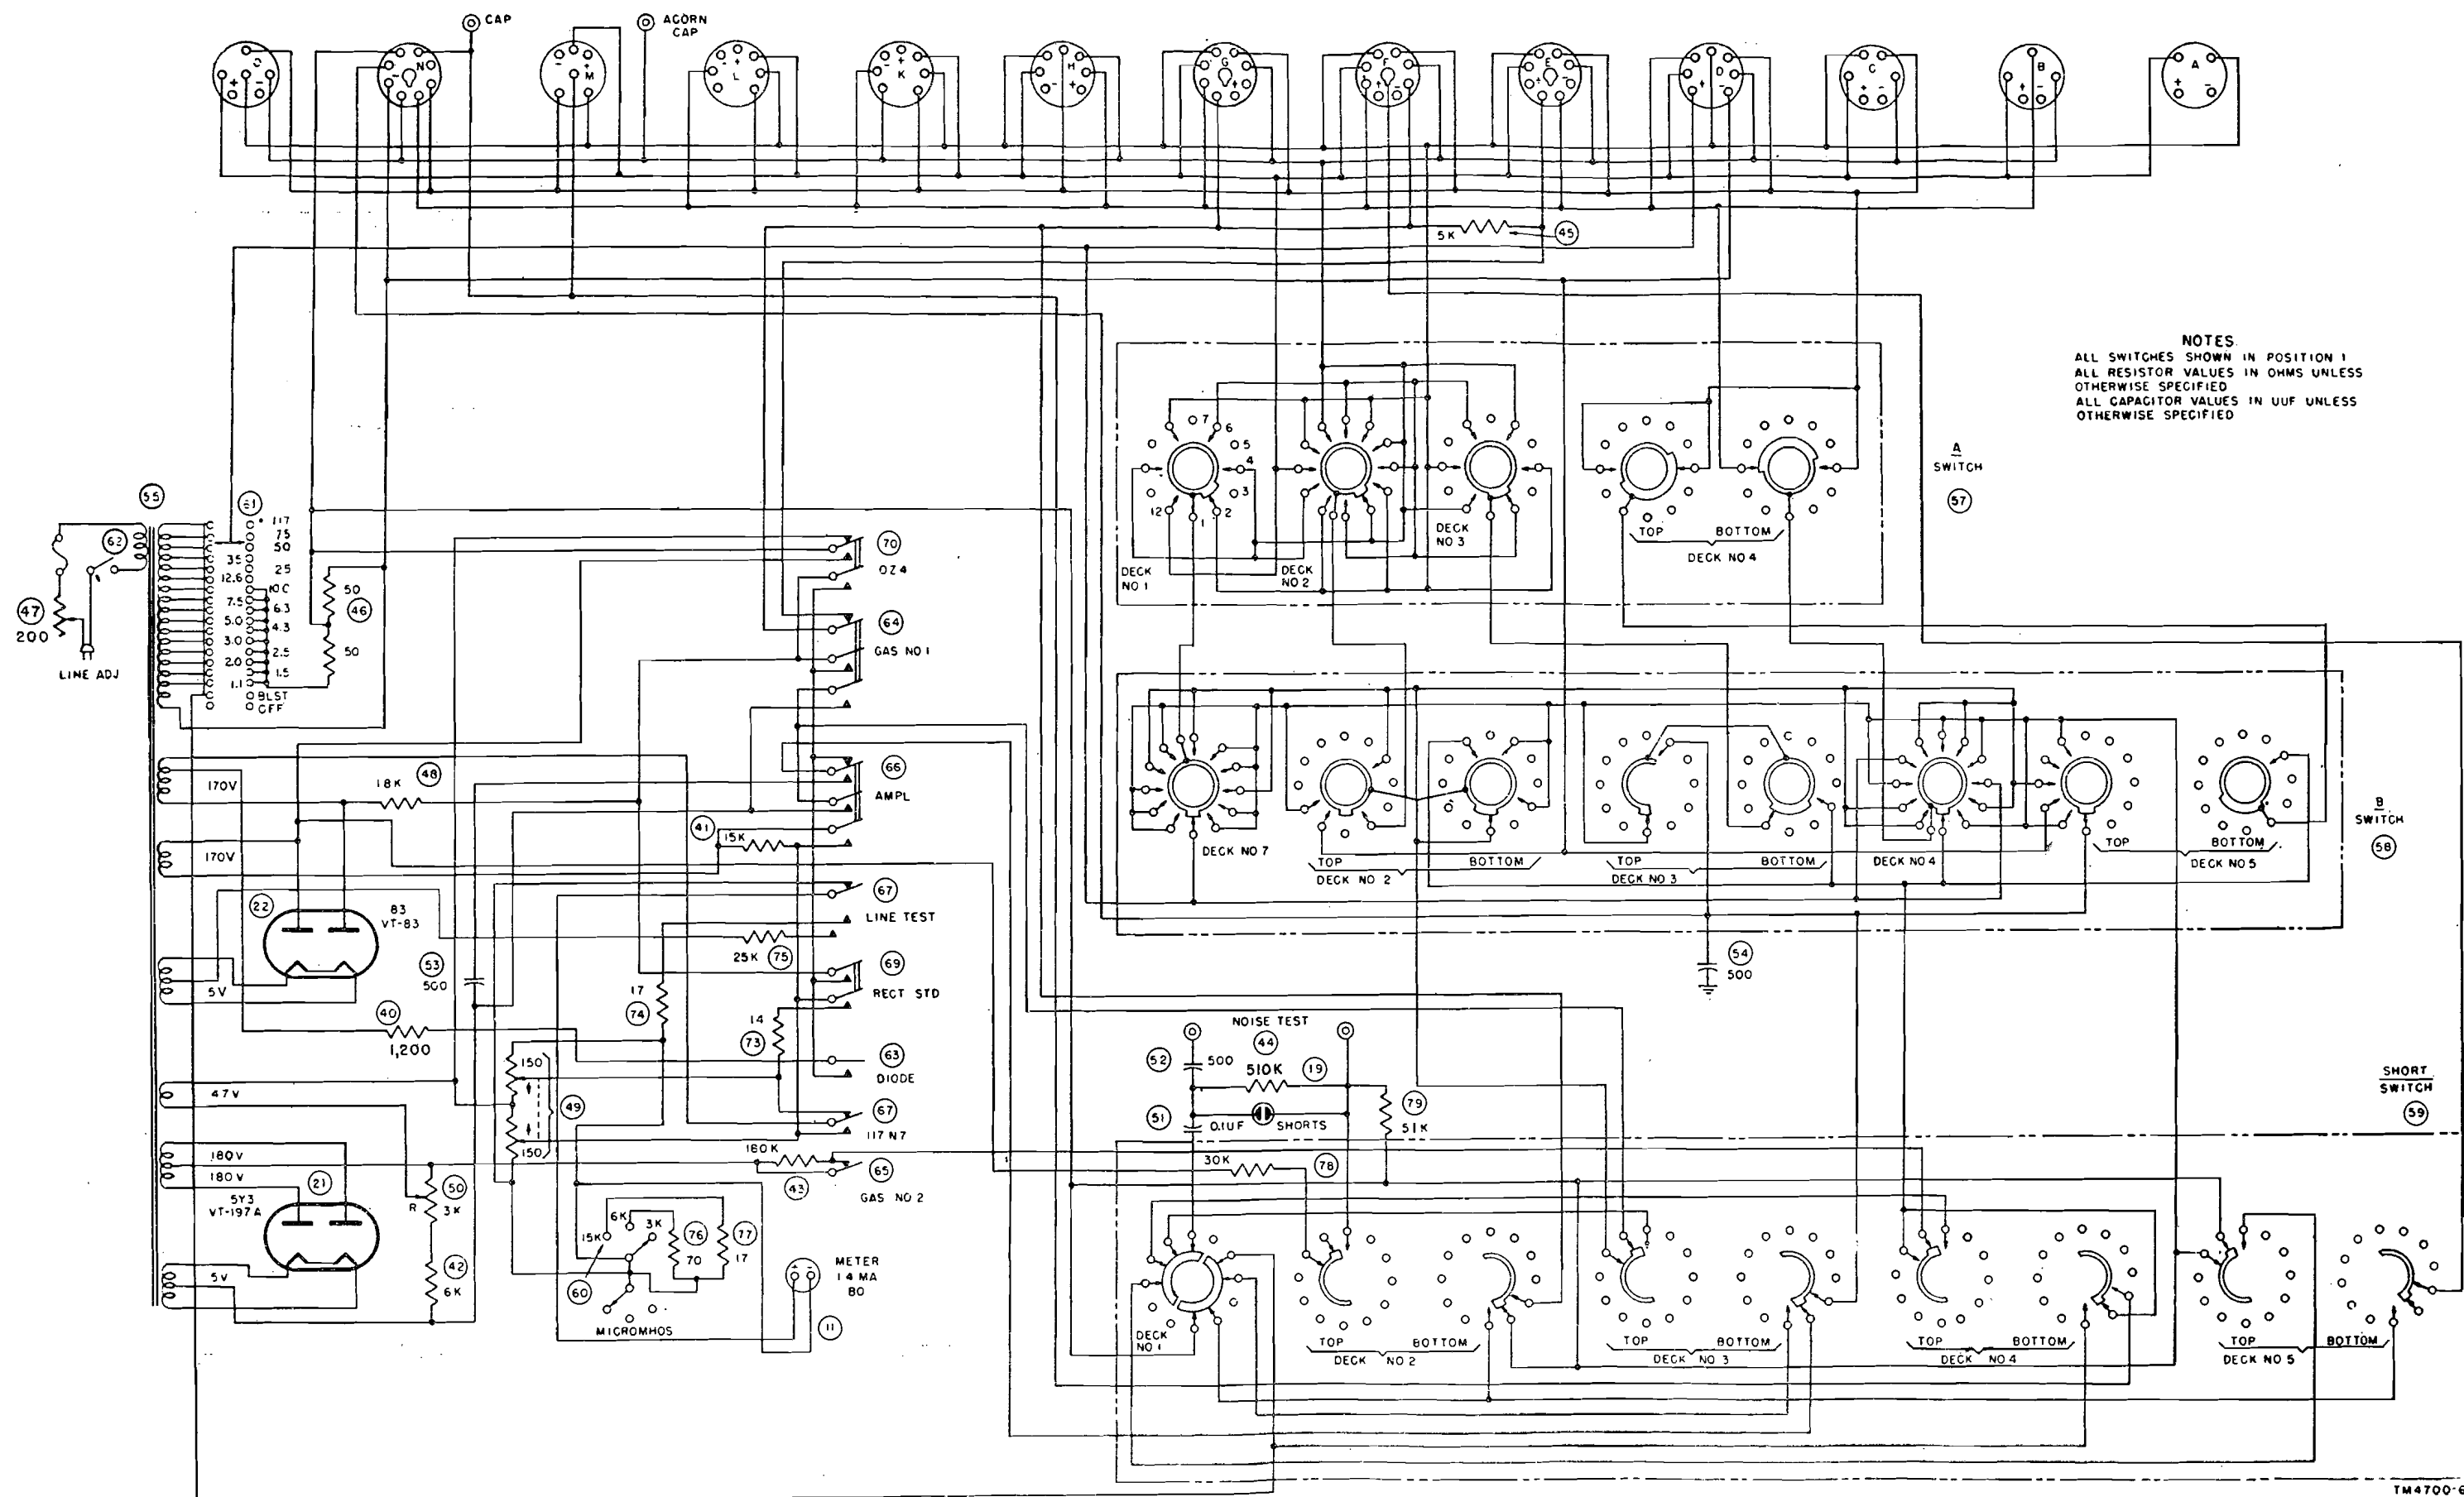

Figure 62. Tube Tester I-177, schematic diagram.
55. Tube Testers I-177 and I-177-A, TM 11-2627 (fig. 62).
c. Parts Check. Check resistors 40, 41, 43, 44, 45, 46, 48, 73, 74, 75, 76, 77, 78, and 79 (fig. 62). The values must be accurate within the following tolerances: 73, 74, and 77, plus or minus $\frac{1}{2}$ ohm; 76, plus or minus 1 ohm; 41, plus or minus 5 percent; 40, 48, and 75, plus or minus 10 percent; and 43, 44, 45, 78, and 79, plus or minus 15 percent.